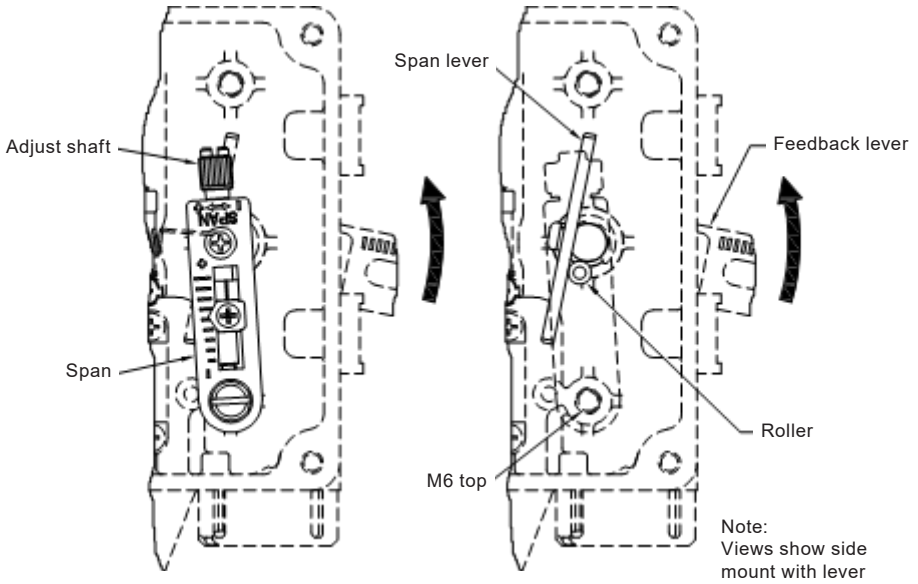

Fig. 17 Span Installation (side = RA, central = DA)
Central mount - If the actuator axis moves down when input signal is increased, assemble the "Span" to lower M6 Tap hole like the below Fig. 17. (DA)
Central mount - If the actuator axis moves up when input signal is increased, assemble the "Span" to upper M6 Tap hole like the above Fig. 17 (RA)